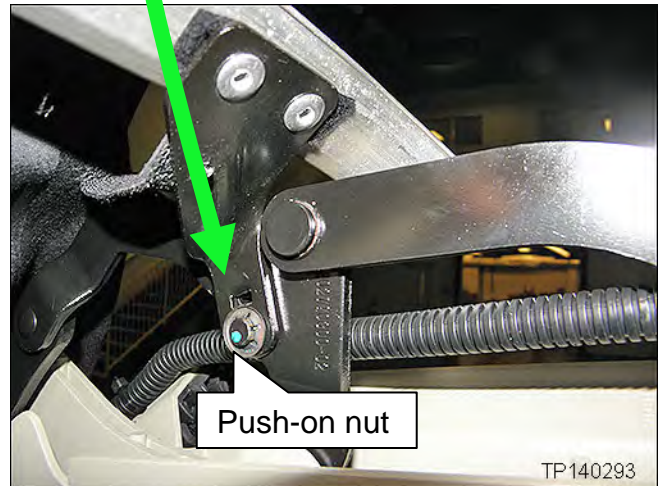
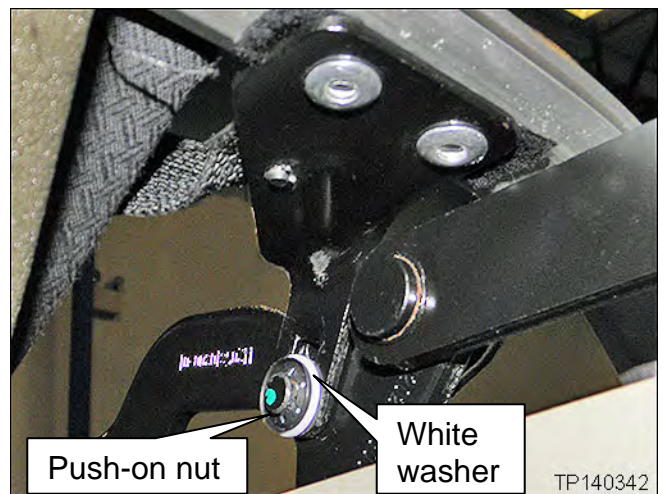

Figure A7
Figure A8
**NOTE:** During removal, you may find that this pin has no washer as shown in Figure A7, or a white washer as shown in Figure A8.
**For Reassembly,** make sure to install the white washer as shown in in Figure A8.